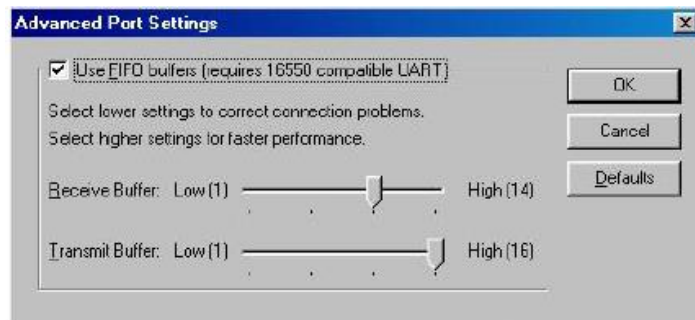

Figure 33
Step 6: In the *Advanced Port Settings* screen (Figure 33), Select the fields as shown.